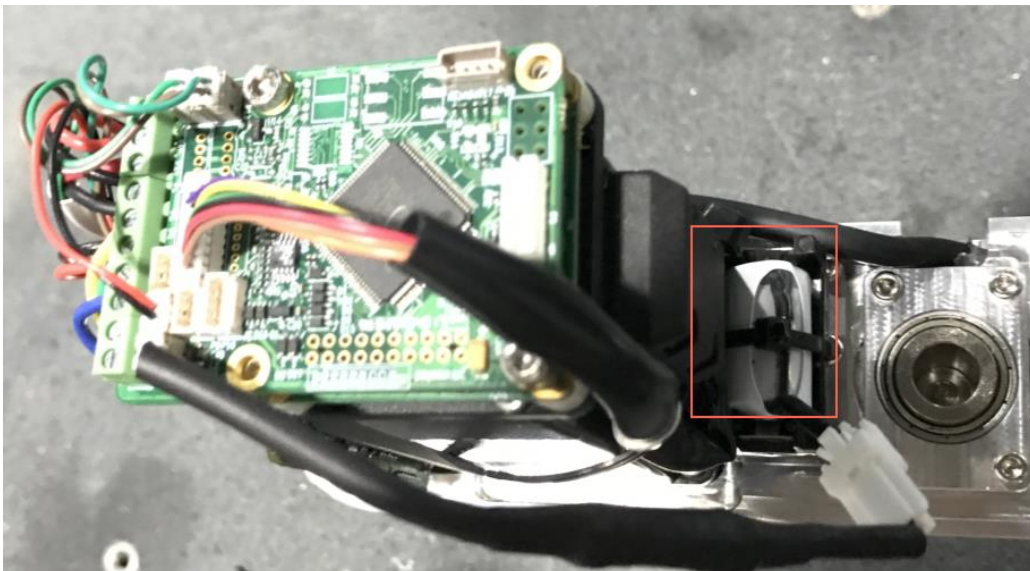

Figure 7.12 Location of battery holder on Forearm
2. Cut off the zip-tie that fixed the original battery, as shown in Figure 7.12.